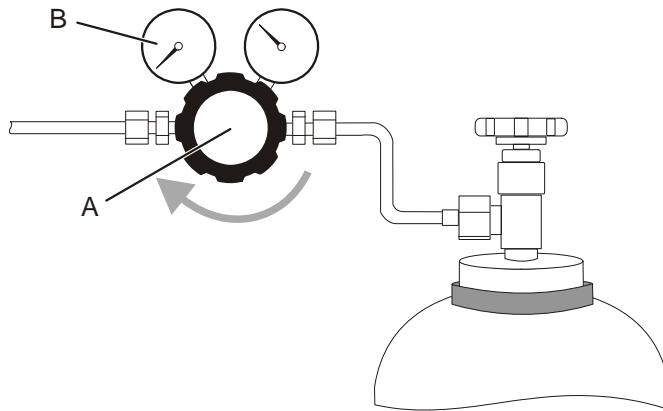

Figure 60: Setting pressure regulator to required pressure
4. Turn the valve on the pressure regulator (see Figure 60, A) clockwise until the pressure gauge (B) indicates the required pressure.